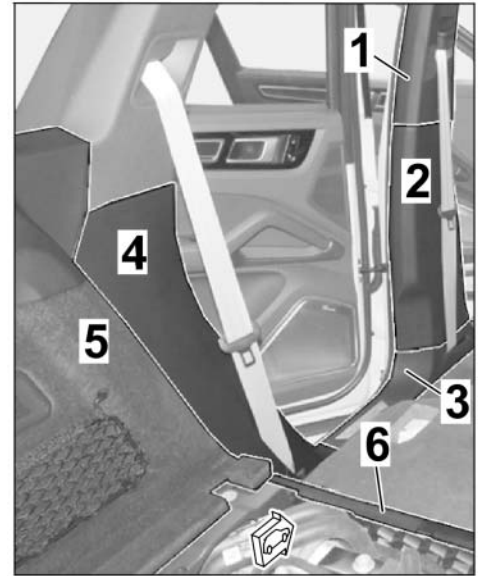

Figure 10
1.7 Expose the B-pillar area (left side) ⇒ *Figure 10*